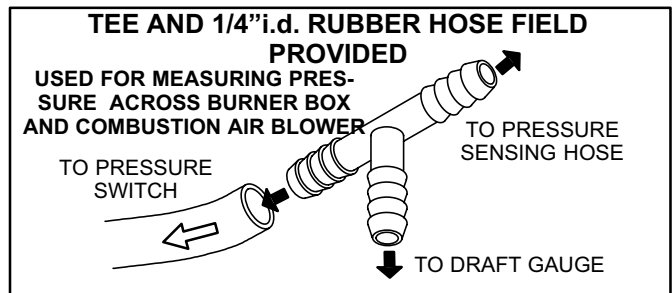

FIGURE 25
- 2 - Disconnect hose from left side of pressure switch and install Tee as shown in figure 25.
- 7 - Disconnect hose from right side of pressure switch and install Tee as shown in figure 25.